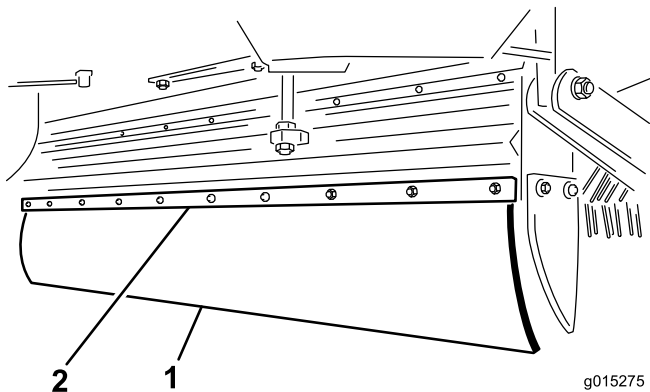

Figure 29
1. Remove the 10 bolts, washers, and nuts on the mounting flap and flap retainer (Figure 29).